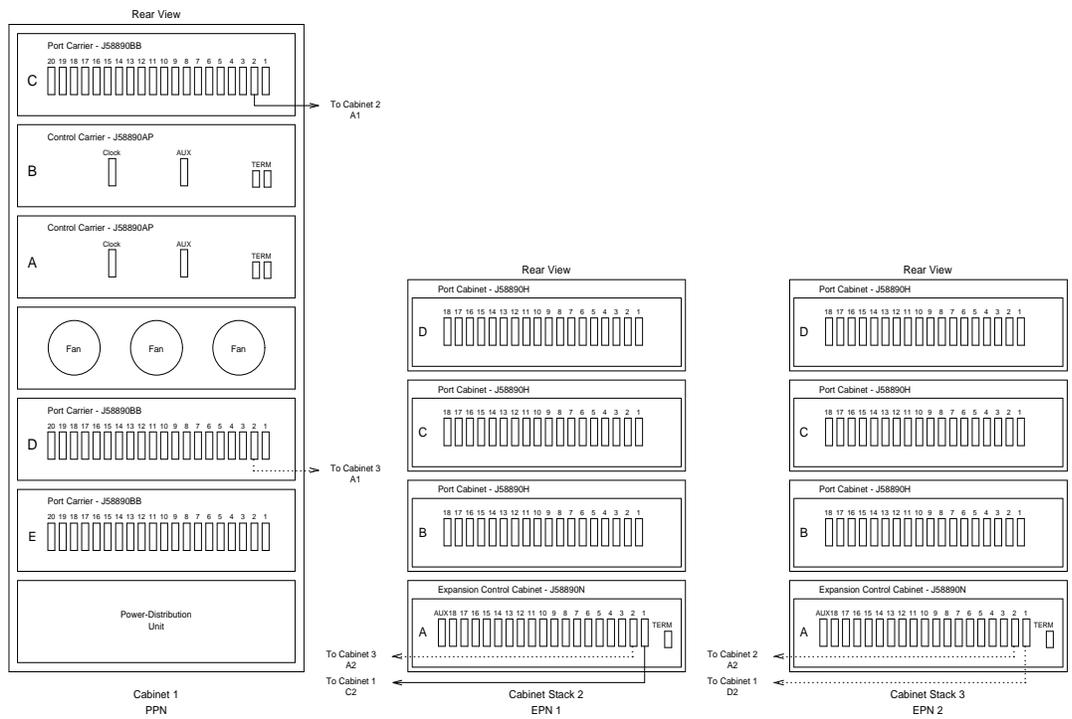
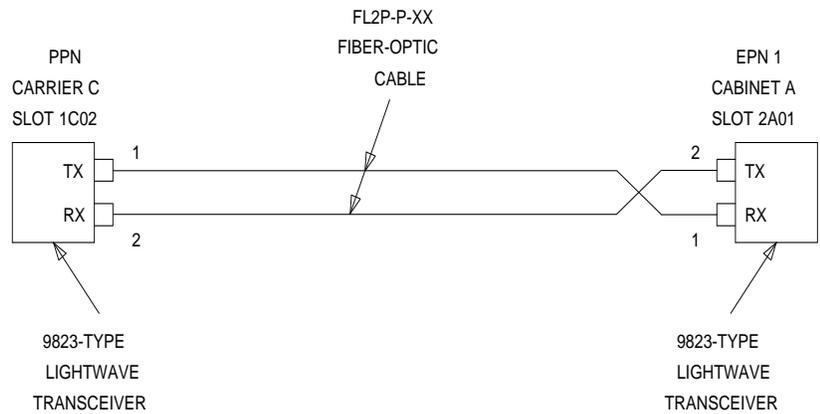
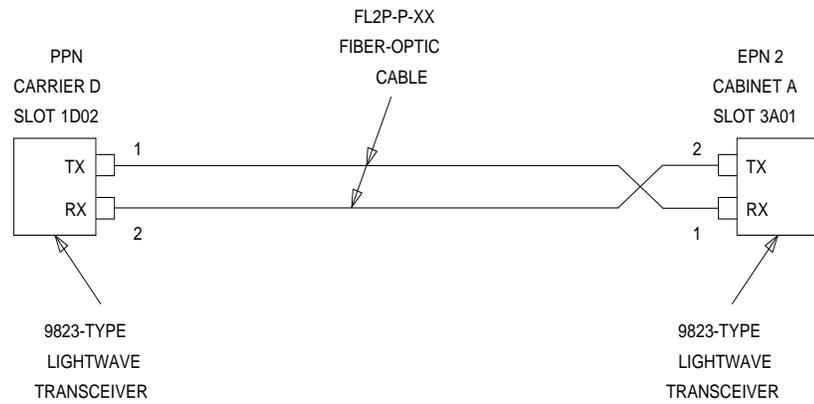
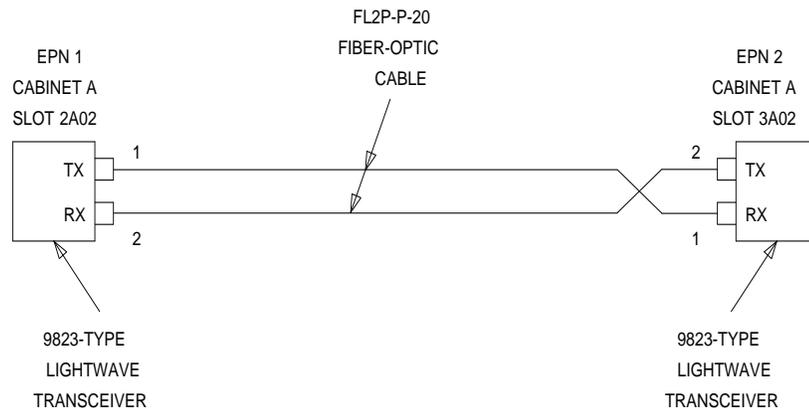

Figure 3-19. High-Reliability DEFINITY ECS R5r with Two or Three Port Networks
Figure 3-20. Fiber-Optic Connections PPN to EPN1
Figure 3-21. Fiber-Optic Connections PPN to EPN2
Figure 3-22. Fiber-Optic Connections EPN1 to EPN2
Throughout these procedures, remember to keep track of which fiber is attached to which connector on each lightwave transceiver. This section provides figures offering the suggested way of making these connections. The connectors on the lightwave transceivers are labeled either “TX” (transmit) or “RX” (receive), while the fibers attached to each connector are numbered either “1” or “2.” A viable fiber connection is only made when both fibers in each cable (that is, “1” and “2”) route from the “TX” connector of a port network to the “RX” connector of its adjacent port network. For an example, refer to Figure 3-20.
1. Behind port carrier C of the multicarrier PPN (see Figure 3-19, Figure 3-20, Figure 3-21, and Figure 3-22):